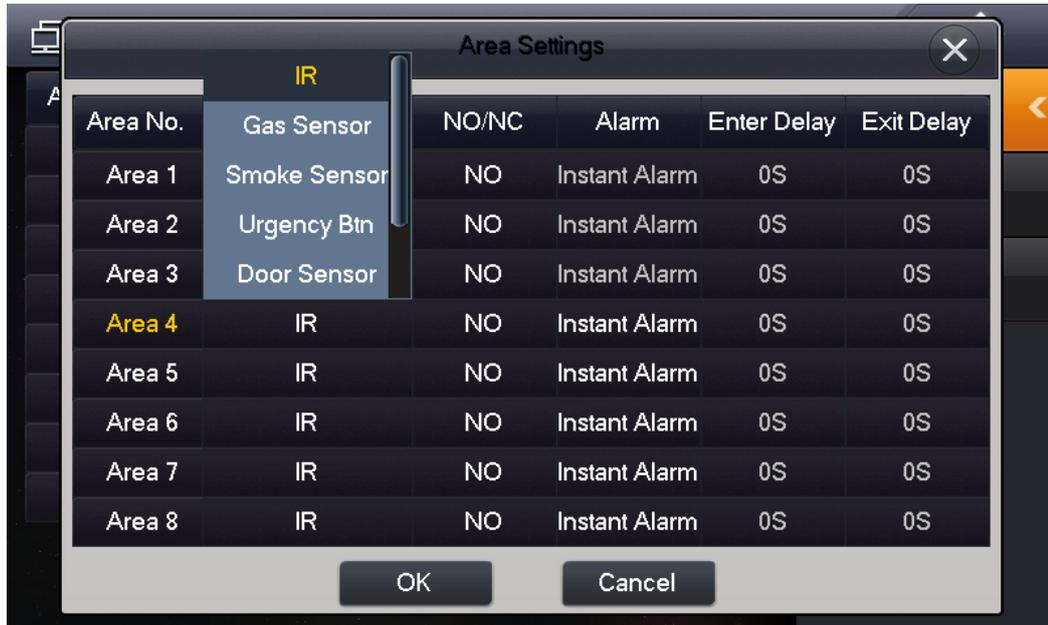

Figure 6-33
Step 2 Enter user password to enter area setting interface, as shown in Figure 6-33.